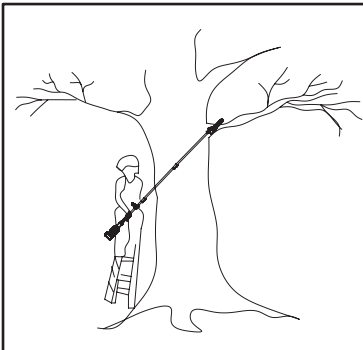

Fig. 49
8. Never stand on a ladder or other type of unstable support while using the product. Insecure stand invites hazards (Fig. 49).